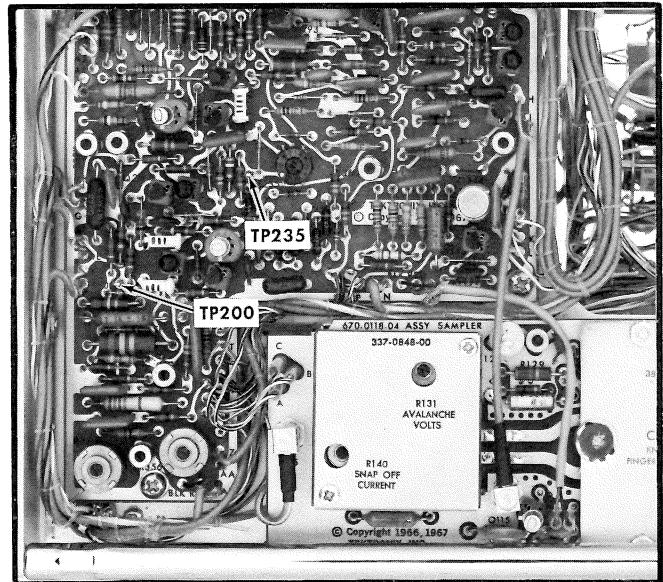

Fig. 7-12. Location of test points TP200 and TP235, Vertical Circuit board assembly.
c. Connect the 10 \times Probe tip to test point TP200; see Fig. 7-12. Set the Test Oscilloscope Time/cm to .1 μs and the Trigger Slope to + Int.